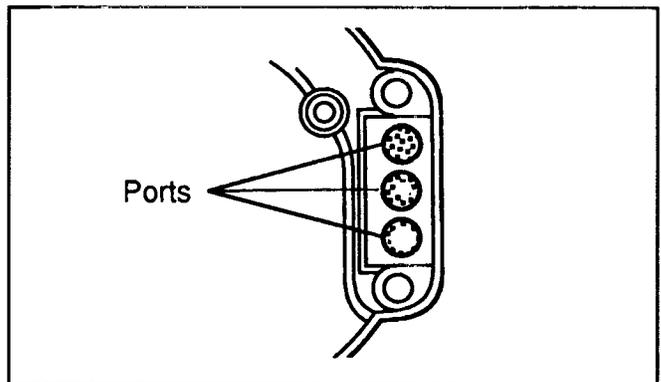

Figure 9
5. Pull the starter rope until the piston covers the exhaust ports (Figure 9). Clean them with a 3/8" (9 mm) wooden dowel.